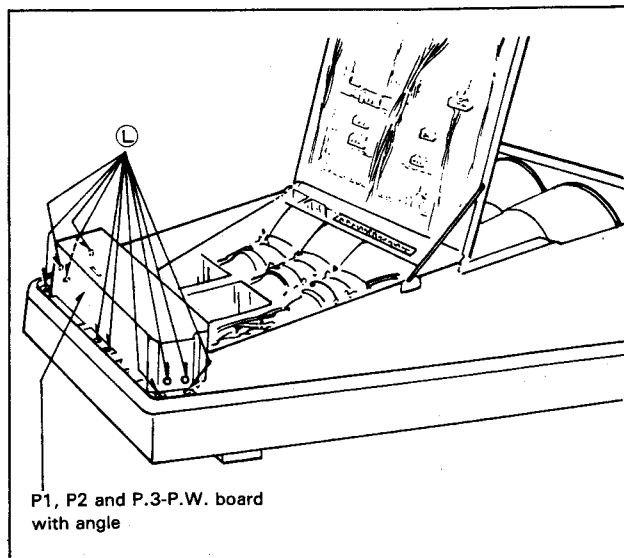

Fig. 10
- 2) Remove 10 screws ⑬, and then carefully pull and lift the P1, P2 and P3-P.W. board with angle as shown in Fig. 10.